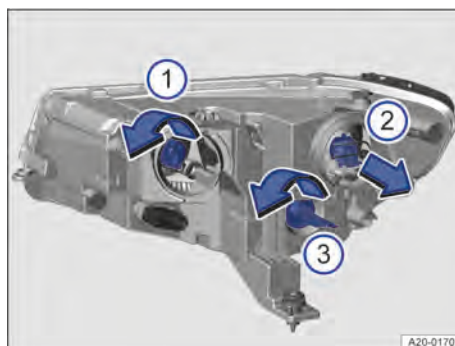

Fig. 172 In the engine compartment: changing bulbs in the right-hand headlight.
4. Turn the bulb holder → Fig. 172 ① in the direction of the arrow as far as it will go and pull it out to the rear.
6. Insert the bulb holder → Fig. 172 ① into the headlight and turn it in the opposite direction to the arrow as far as it will go.
4. Pull the bulb holder out → Fig. 172 ② in the direction of the arrow.
6. Insert the bulb holder → Fig. 172 ② into the headlight and press in the opposite direction to the arrow.
3. Turn the bulb holder → Fig. 172 ③ in the direction of the arrow as far as it will go and pull it out to the rear.
5. Insert the bulb holder → Fig. 172 ③ into the headlight and turn it in the opposite direction to the arrow as far as it will go.